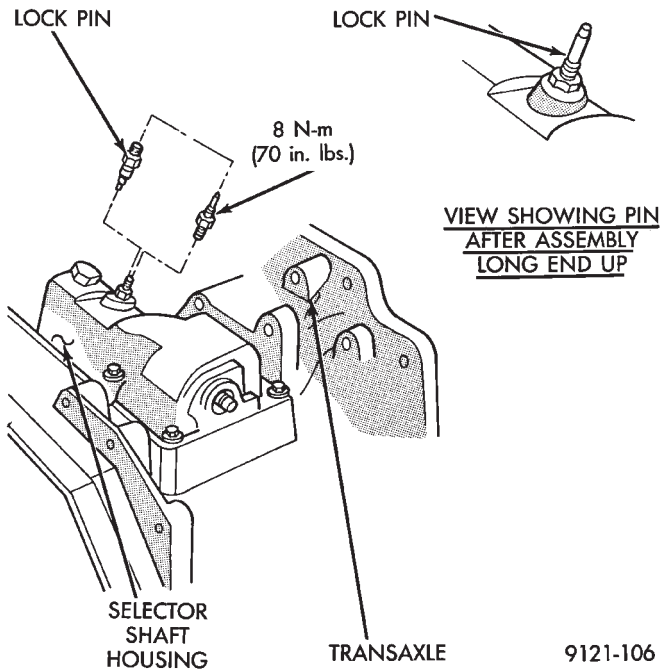

Fig. 2 Manual Transaxle Pinned in the Neutral Position to Adjust Gearshift
(1) Working over the left front fender, remove the lock pin from the transaxle gearshift (selector shaft) housing (Fig. 2).